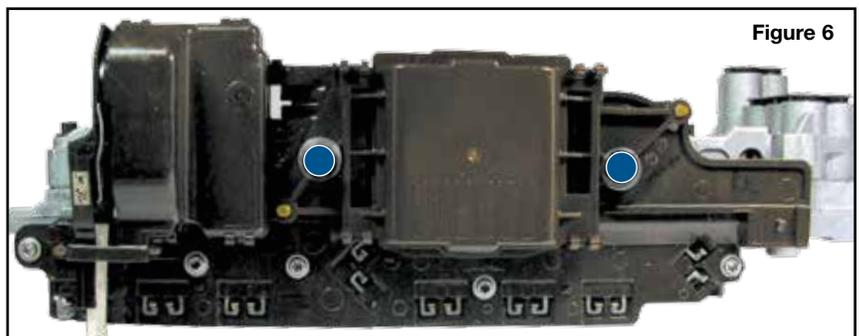

Figure 6
- d. Remove the two 8mm head bolts on the side of the TEHCM (**Figure 6**).
- Place the TEHCM on the valve body. Install the two 8mm head bolts and *hand-tighten only* (Figure 6).